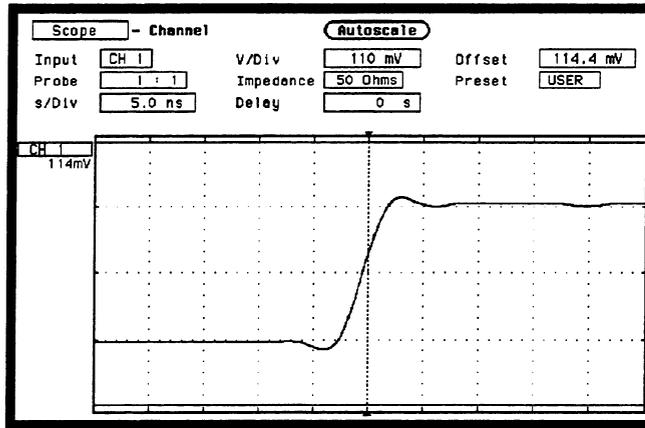

Figure 4-4. Channel Menu
10. Press FORMAT/CHAN and adjust **V/Div** and **Offset** to obtain a waveform as shown in figure 4-4.